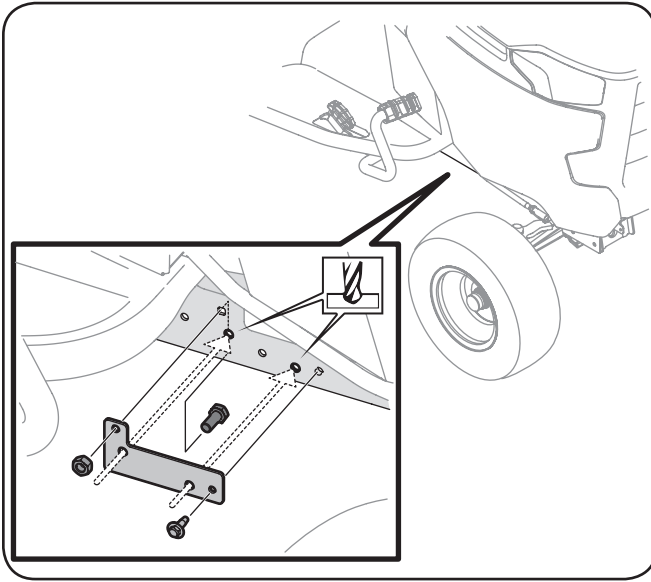

Figure 3-21
- Align template A on the right side of the tractor as shown in secure in place with the hex screw, nut and screw from the Snow Cab/Sun Shade Mounting Kit. See Figure 3-21.
- Drill the appropriate holes with the $\frac{9}{32}$ " drill bit provided in the Snow Cab/Sun Shade Mounting Kit. See Figure 3-21.